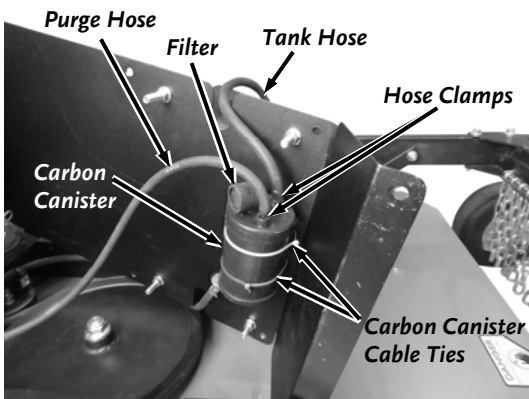

Figure 46
2. Cut the Cable Ties that are securing the Carbon Canister to the Gas Tank Plate using Wire Cutters (**Figure 46**).